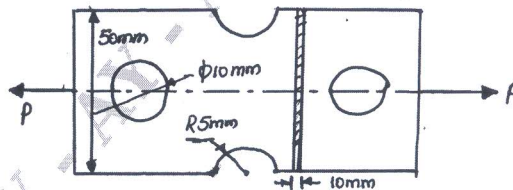

Fig Q3(b)
- b. Determine the safe load that can be carried by a bar of rectangular cross-section shown in Fig Q3(b), limiting the maximum stress to 130 MPa taking stress concentration into account.